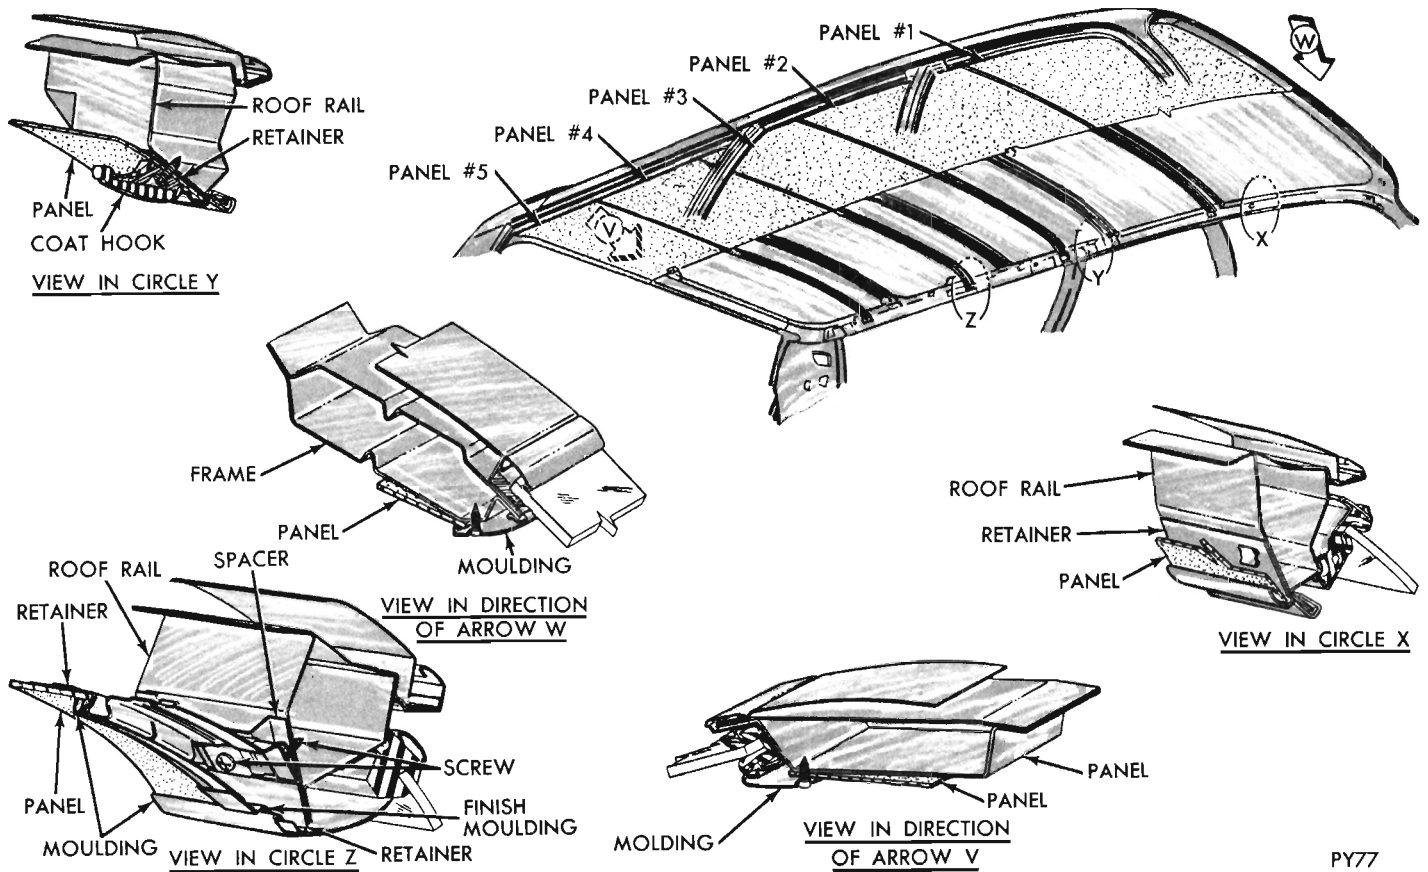

Fig. 14 - Hard Board Panel - Station Wagon
The individual hard board headlining sections are held in position with semi-flexible type plastic mouldings (Figs. 14 and 15) forced over the retainer sections of the roof bows. Starting at either outer end, remove end cap and pry the moulding off retainer. When installing moulding make certain it is fully seated and evenly spaced from side to side. Install end caps in retainer and over moulding ends.
(1) Remove plastic mouldings (Figs. 14 and 15)